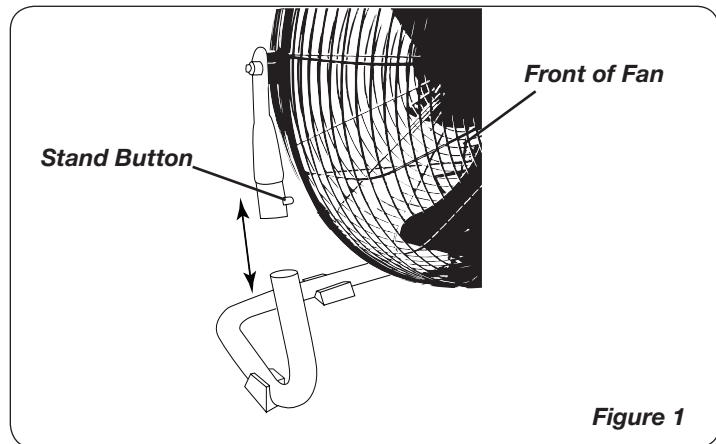

Figure 1
(Figures 1 and 2)
2. Align the two sides of the fan to the stand (**Figure 1**). By pressing in the stand buttons - push down until they lock in place.